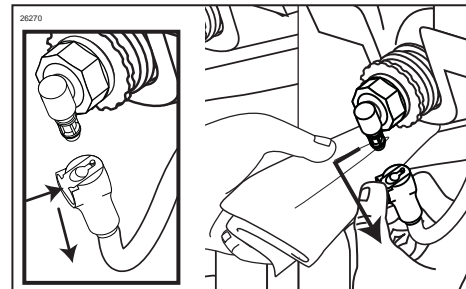

Figure 60
8. Using a single service towel under the Syrup Bag Connector, disconnect the Connector from the Syrup Bag Adapter by pressing down on the lever and pulling it away from the Syrup Bag Adapter. (See Figure 60.)